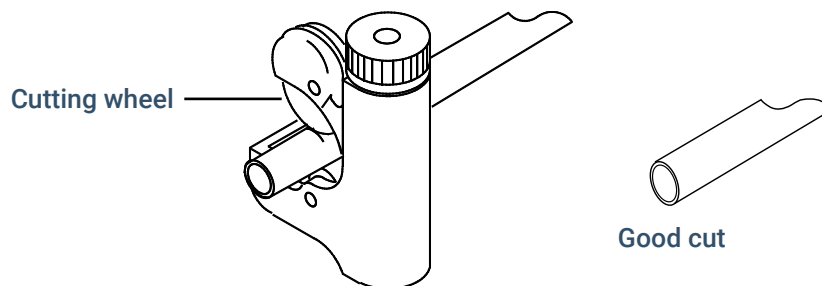

Figure 8. Typical tubing cutter
2. Cut the tubing to length with a tubing cutter. See Figure 8.